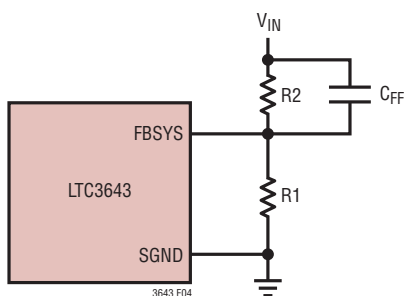

Figure 4. Setting The VIN Voltage In Step-Down Mode
**FBSYS (Pin 8):** Feedback Input to Step-Down Regulator Control Loop. Connect a resistor divider tap to this pin. The VIN voltage can be adjusted such that VIN = 0.6V (1+R2/R1) (See Figure 4).